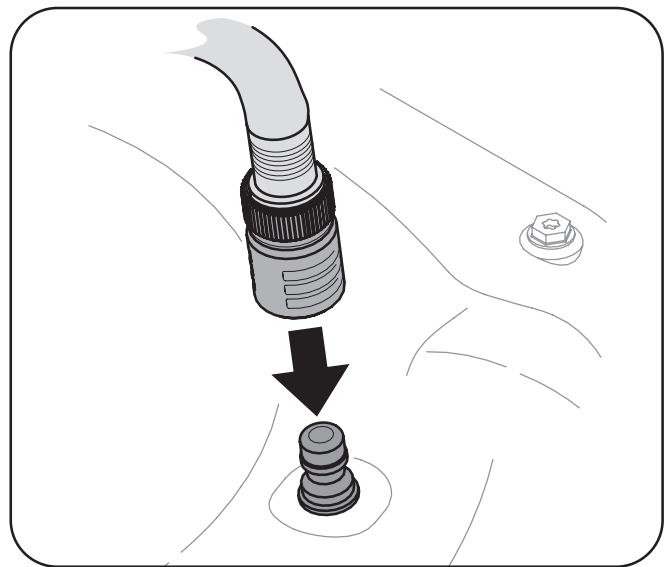

Figure 6-2
3. Attach the hose coupler to the water port on your decks surface. See Fig. 6-2.